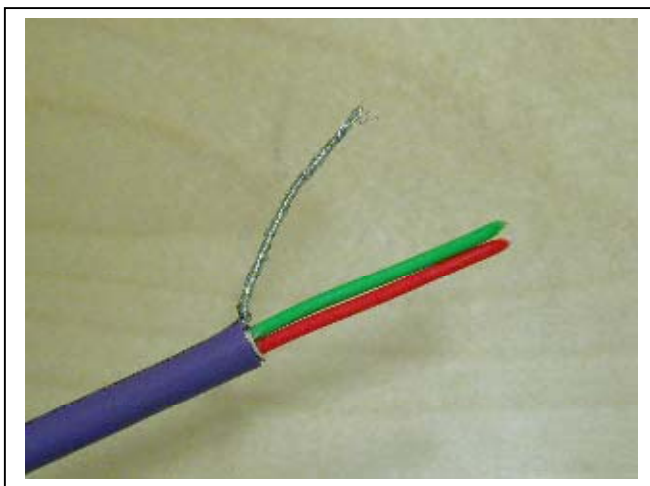

Figure 4-3.
1. Strip about 5 cm of the Profibus cable in the same way as shown in *Figure 4-3* but **cut off the grey cable shield**.